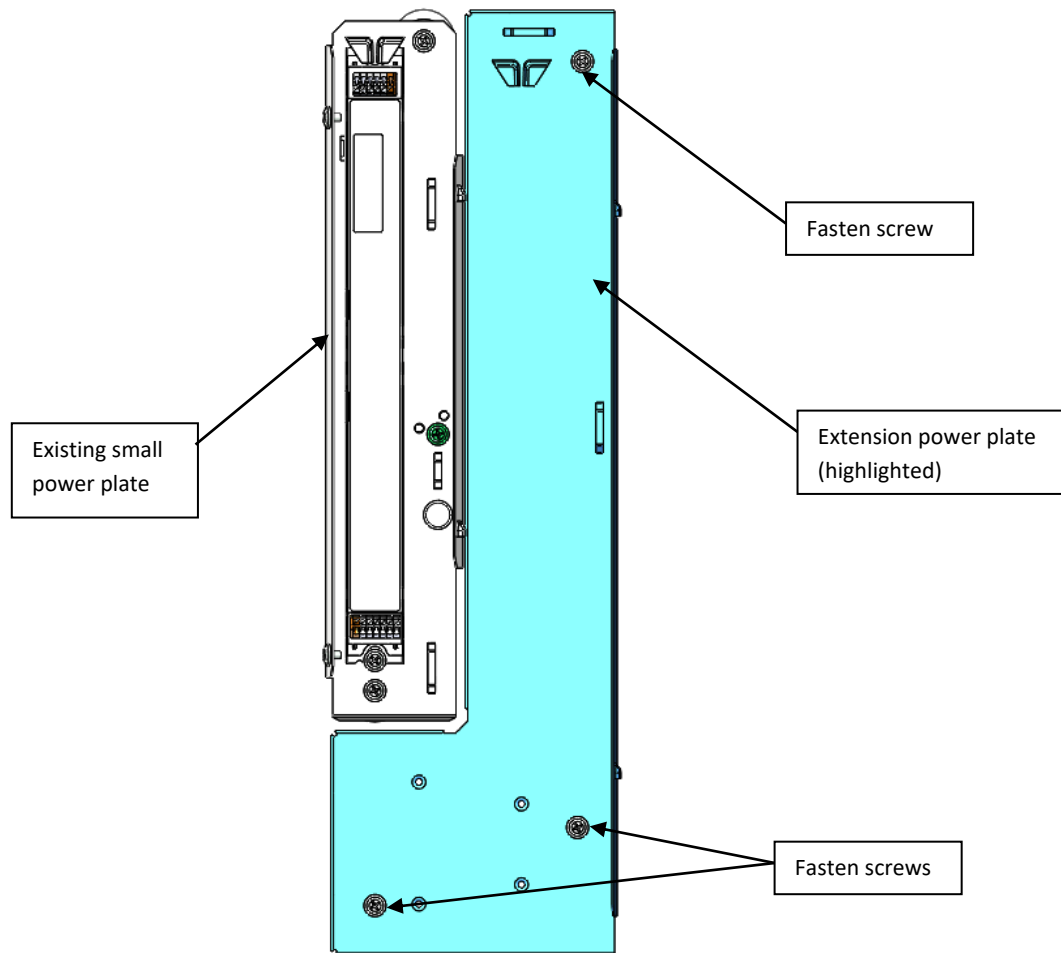

Figure 9: Fasten the extension power plate
2. Fasten the extension power plate with 3 fasteners into the backplate/recessed housing mating stand offs seen in Figure 9.